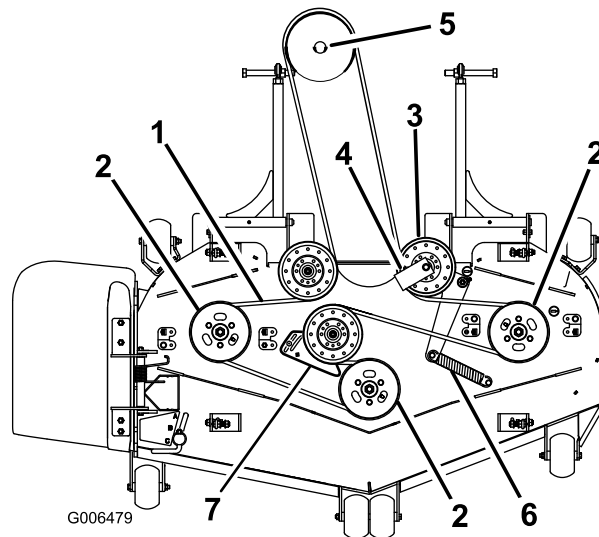
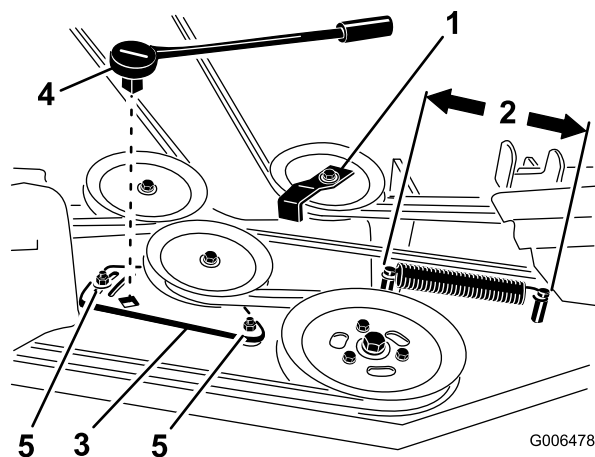

Figure 82
Figure 84
6. For 72 inch mowers, loosen the idler plate bolts holding the idler plate (Figure 84).
8. Remove the belt guide on the spring-loaded idler pulley shown in Figure 82 and Figure 84.
10. Install the new belt around the mower pulleys and the gearbox pulley under the engine (Figure 82).
11. Install the belt guide on the spring-loaded idler at a 45 degree angle as shown in Figure 82 and Figure 84. Torque the bolt to 37 to 45 N·m (27 to 33 ft·lb).
12. Install the idler spring to the 2 posts (Figure 82 and Figure 84).
to 26 cm (10 to 10-1/4 inches) from post to post as shown in Figure 84.
8. While holding the belt tension and spring length, tighten the idler plate bolts that secure the idler plate (Figure 84).
4. Measure the spring length (Figure 84). If the spring length is between 25.4 to 26 cm (10 to 10-1/4 inches), from post to post, no adjustment is needed.
5. Loosen the bolts holding the idler plate (Figure 84).
6. Insert a ratchet or breaker bar into the square hole in the idler plate to adjust the tension (Figure 84).